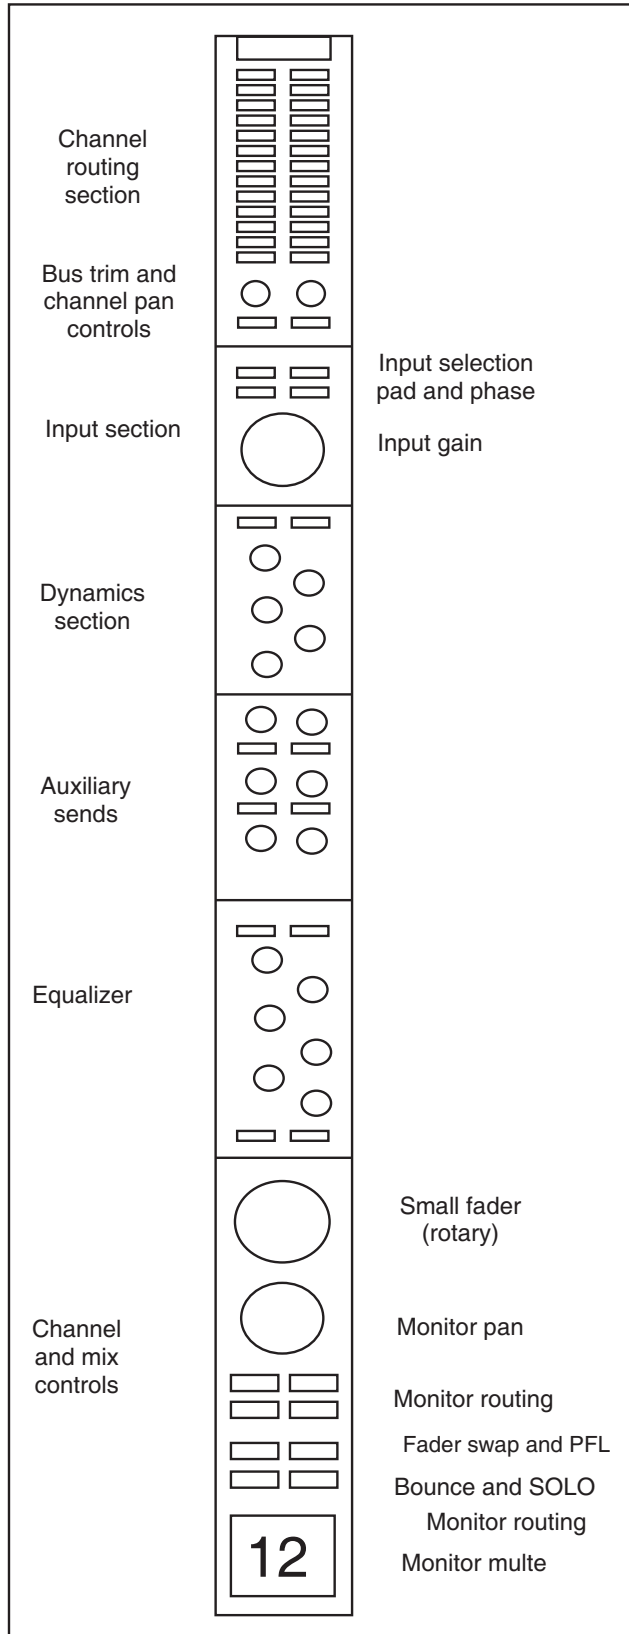

Fig. 9.9
**Channel Strip:** Typical layout of a channel strip is shown in Fig. 9.9.